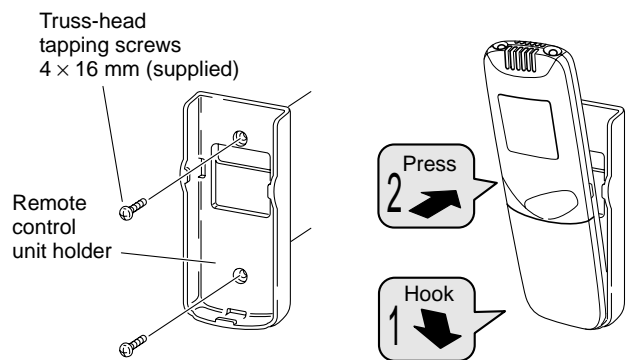

Fig. 13
- (1) Confirm the indoor unit beeps when the ON/OFF button is pressed at the wall location where the remote control unit is to be attached, then attach the holder to the wall. (Fig. 13)